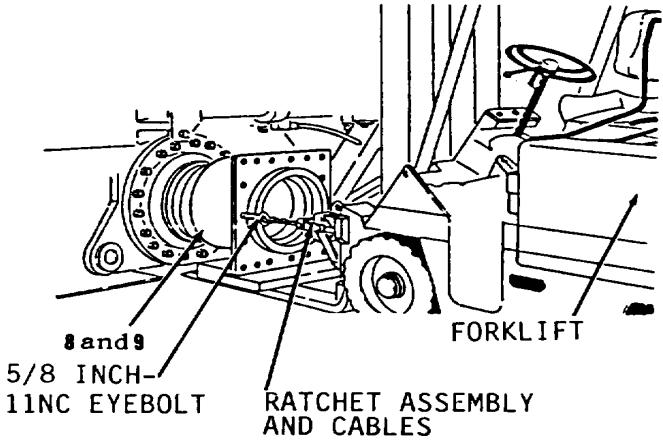

Figure 5-127.
3. Support items 8 and 9 as an assembly (Figure 5-127) and install two 5/8-11NC eyebolts. Position forklift under items 8 and 9 as an assembly. Secure ratchet assembly to forklift and secure cables to eyebolts.